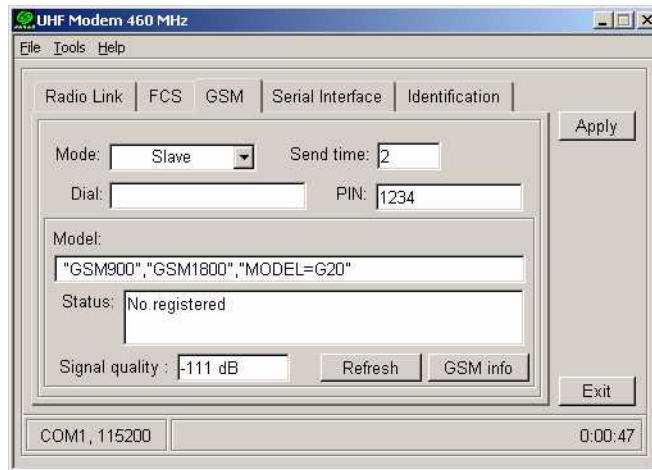

Figure 2-28. GSM Tab
2. Click the **GSM** tab (Figure 2-28).